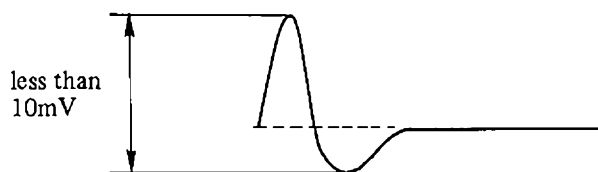

Fig. 4.21
- 4) Adjust two pots R211 and R212 to minimize the peak-to-peak signal level as shown in Fig. 4.21.